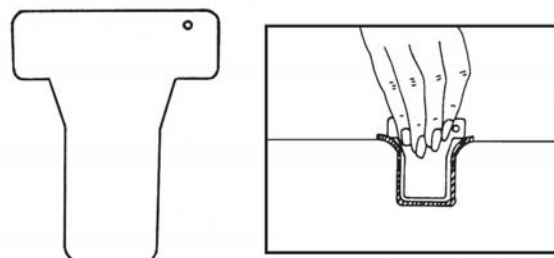

Fig. 4
3. After putting a scouring pad in a coffee fur remover solution, place it on top of the cavity and push the scouring pad with the smaller part of the cleaning accessory in the cavity. (fig. 4). In case of insufficient result repeat the treatment.